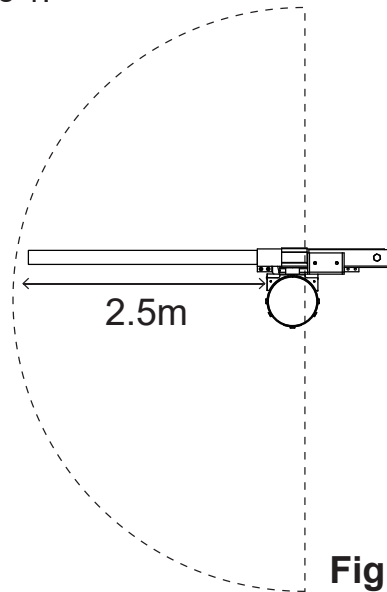

Figure 1
- (1) Before installation, please make sure there is no any obstacle within 2.5 meters of installation field. Please refer to the Figure 1.